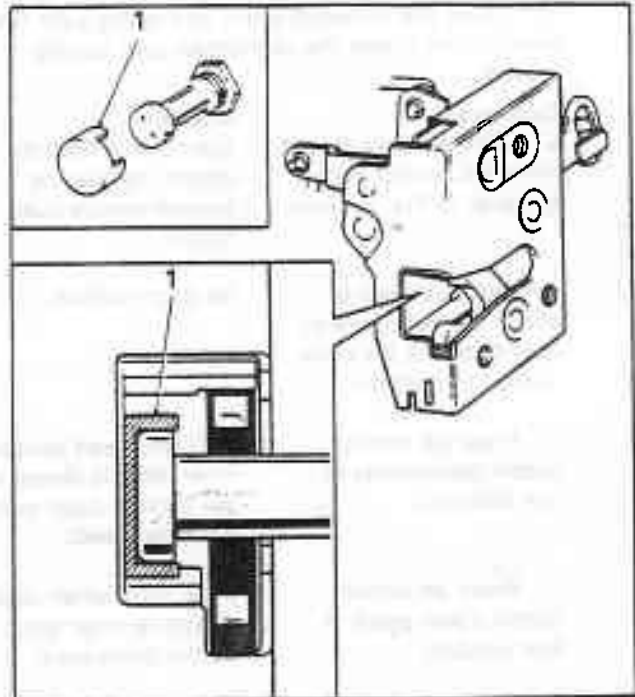

Fig. S3-20 Correct setting of striker pin in lock aperture
3. Carefully offer up the door to the striker pin and screw the pin in or out until the setting piece just contacts the back of the lock (see fig. S3-20).